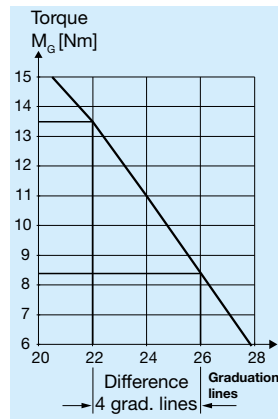
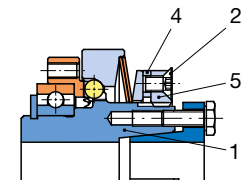

Fig. 4
Fig. 8
### EAS®-NC Size 02 (Fig. 8 and Fig. 4):
- Loosen the locking screw (2).
- Grease the thread and contact surfaces on the adjusting nut (5), the locking ring (4) and the hub (1).
- Set the adjusting nut (5) by hand up to contact on the cup spring (9).
- Continue to turn until the four notches on the circumference of the adjusting nut (5) and the notches in the locking ring (4) align.
- Turn the adjusting nut (5) further using a face wrench to the number of graduation lines which equal the required torque (Fig. 4, number of graduation lines in the Adjustment Diagram). The 4 notches on the circumference of the adjusting nut (5) and on the locking ring (4) must be in the same position.
- Paint the locking screw (2) with Loctite 243 and screw it into the adjusting nut (5).